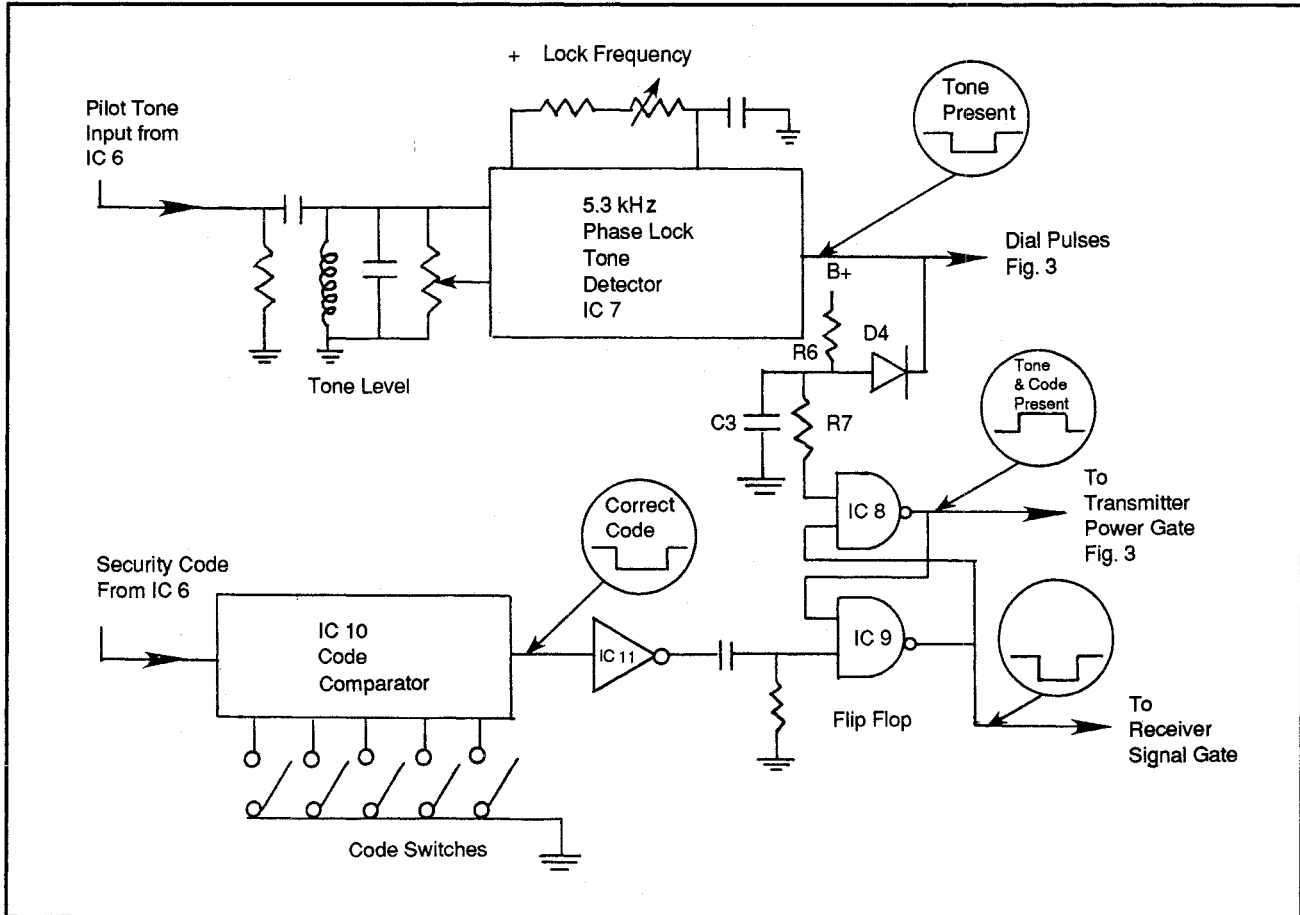
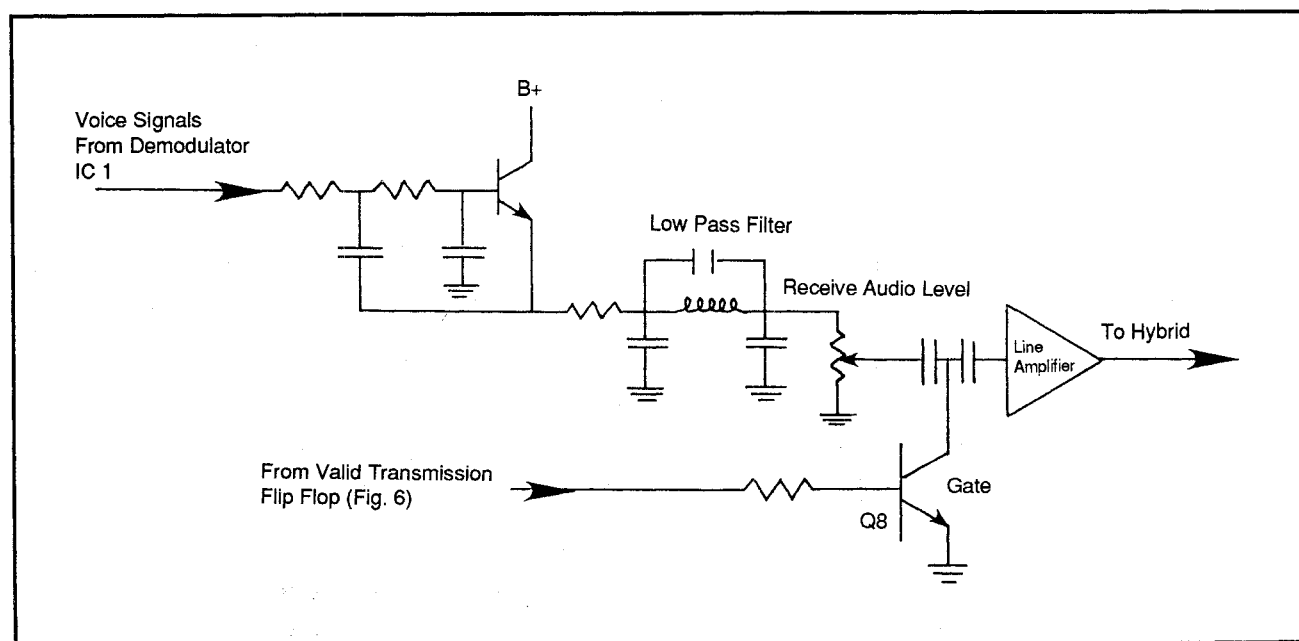

**Figure 5:** Block diagram of base unit receiver
Figure 7: Receiver filter-amplifier-gate
Figure 5 shows the block diagram of the base unit receiver. RF signals from the
**Audio Voice Signal** The third incoming signal from the demodulator (Figure 5) is the audio voice signal. Figure 7 shows how the signal is fed through a low-pass filter. This removes the 5.3 kHz pilot tone and any other frequencies above the filter cutoff (usually in the 3.5 kHz range).